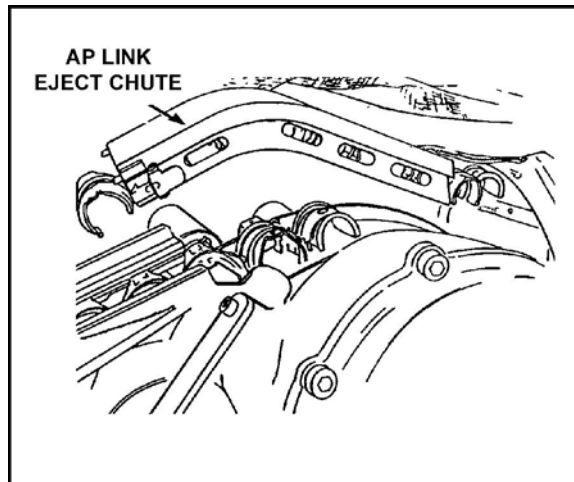

Figure 4. AP link eject chute.
(2) Pull the link eject chute away from the 25-mm gun area (Figure 4).